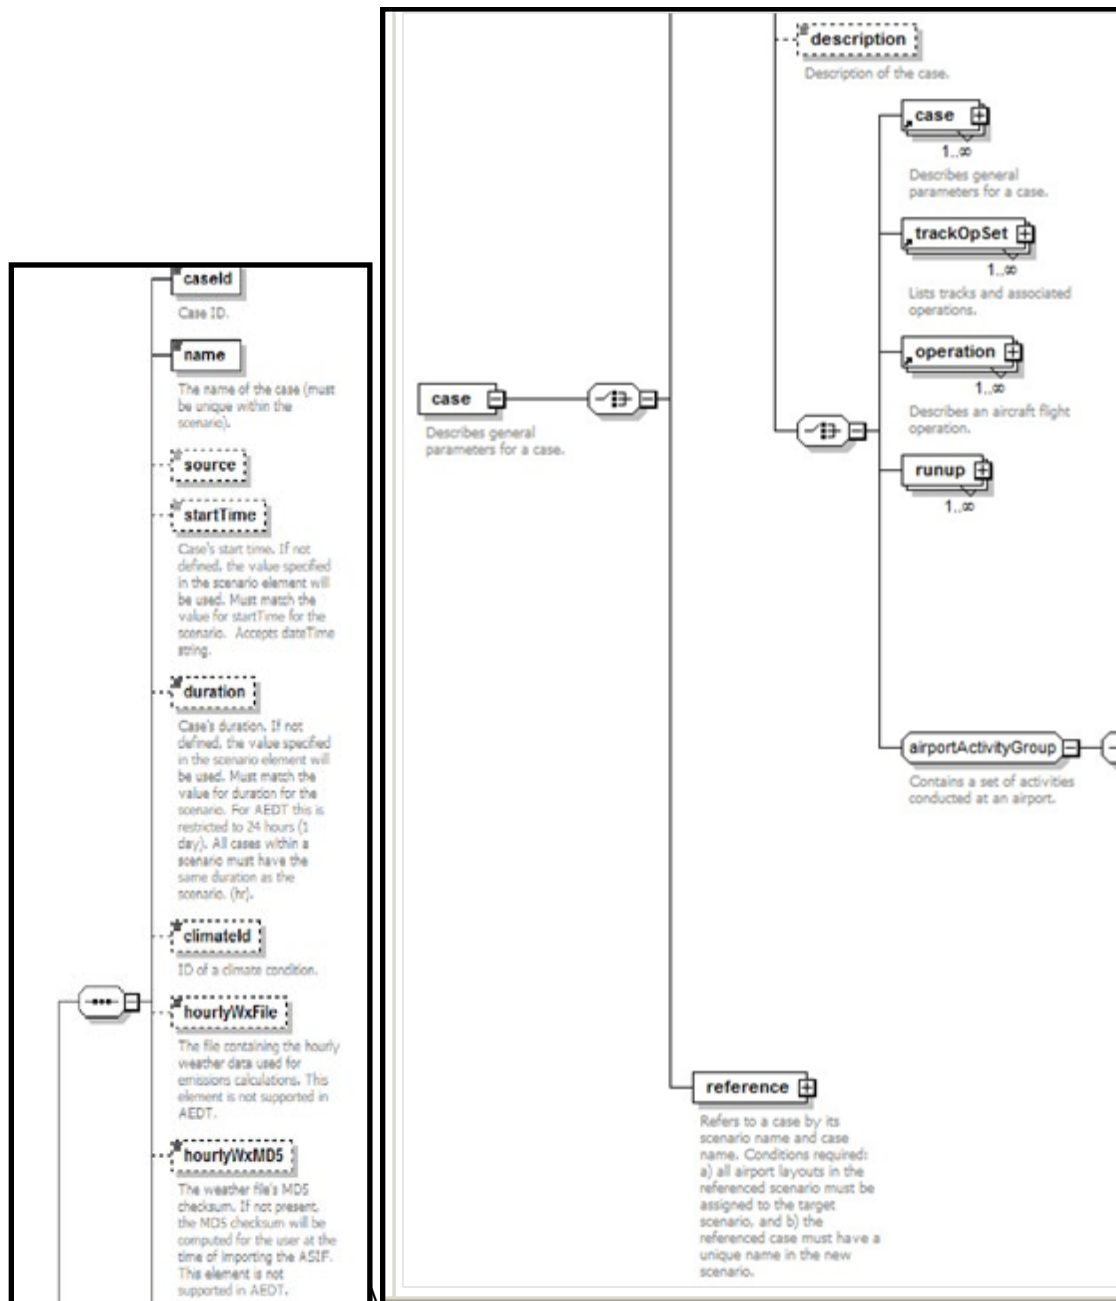

Figure 54. XML element case
7. **AsifXml/study/scenario/case** (Figure 54):